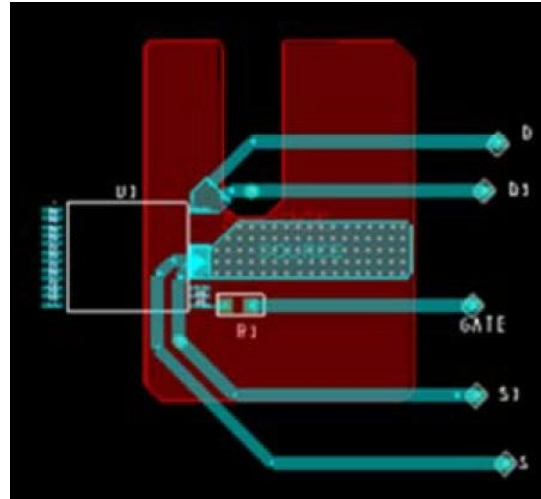

Figure 25. Thermal Resistance Test Conditions for PowiGaN Devices (INN3678C, INN3679C and INN3670C.)
Testing performed on custom thermal test PCB as shown in Figure 25. The test board consists of 2 layers of 2 oz. Cu with the InSOP package mounted to the top surface and connected to a bottom layer Cu heat sinking area of 550 mm2.
4. Please see Figure 25.